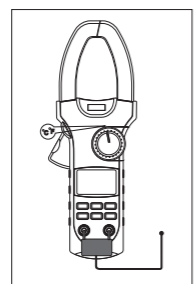

Figure 11
I. Measuring Temperature (UT208 Only, See Figure 11)